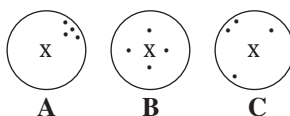

Figure 4.
- “Bull’s-eye” drawings are often used to illustrate the concepts of accuracy and precision. Which drawing in Figure 4 suggests projectiles that were launched at target x accurately but imprecisely? Which one illustrates precise but inaccurate catapult launches?